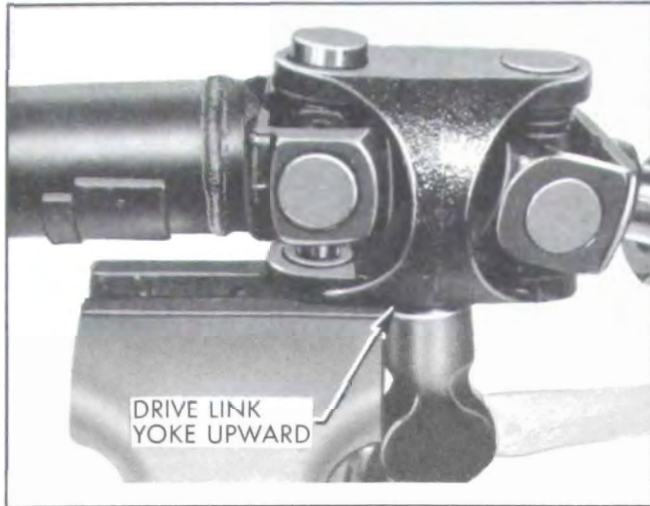

Figure 6-41—Removing Universal Joint Bearing
8. Using same bearing remover tool, apply force on shaft yoke around bearing. Drive yoke downward until bearing is free of yoke. See Figure 6-41.